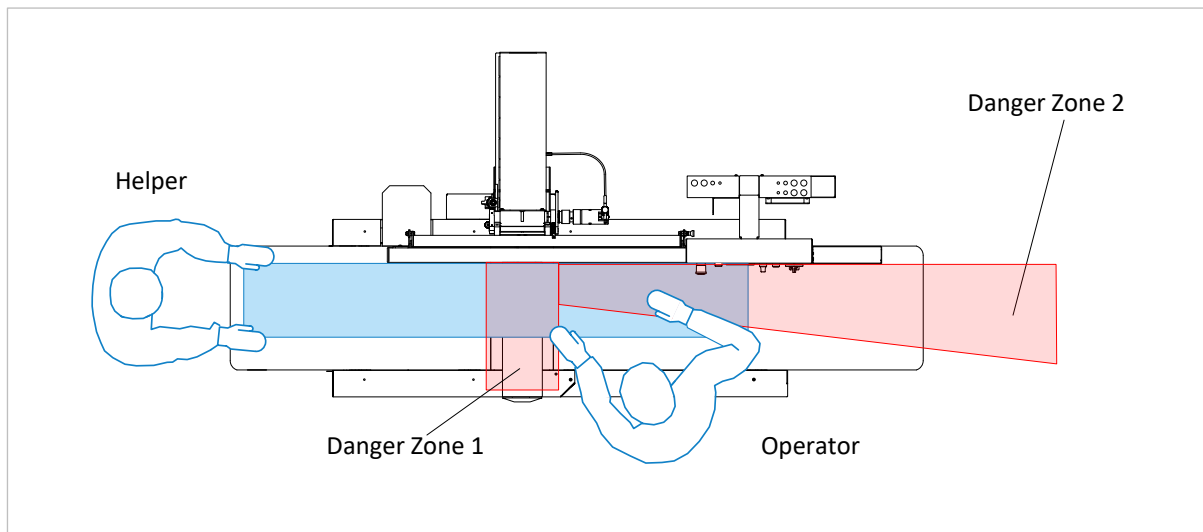

Figure 2: Danger zones
- When planing & jointing, the operator of the machine must generally stand in front of the planing table, to the right of the cutter block resp. planer guard. It is forbidden to enter the Danger Zone 2 marked in ⇨ Figure 2 while the cutter is running.